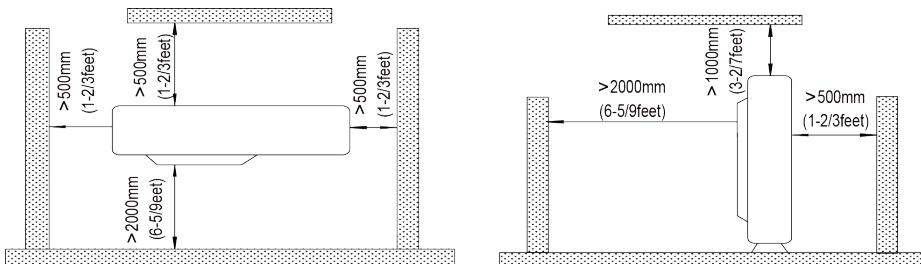

Fig. 3.2
- (1). If possible, do not install the unit where it will be exposed to direct sunlight. (If necessary, install a blind that does not interfere with the air flow.)
- (2). Install the outdoor unit in a place where it will be free from getting dirty or getting wet by rain as much as possible.
- (3). Install the outdoor unit where it is convenient to connect the indoor unit.
- (4). Install the outdoor unit where the condensate water can be drained out freely during heating operation. Do not place animals and plants in the path of the warm air.
- (5). Take the air conditioner weight into account and select a place where noise and vibration are small.
- (6). Install the outdoor unit where it is capable of withstanding the weight of the unit and generates as less noise and vibration as possible.
- (7). Provide the space shown in Fig. 3.2, so that the air flow is not blocked. Also for efficient operation, leave three of four directions of peripheral constructions open.